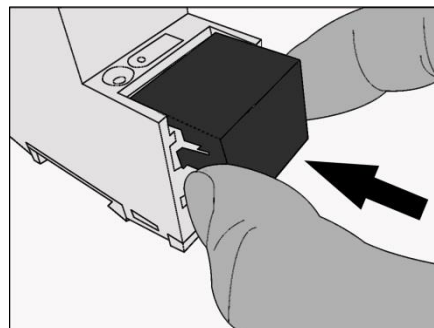

Figure 2
- Connect the external power supply to the connection terminal (3). We recommend: use the white-yellow connection terminal.
- Connect the KNX line with the red-black bus terminal (2).
- Connect the network connection to the RJ pin jack with the RJ45 plug (7).
**Attach the cover cap, figure 2**